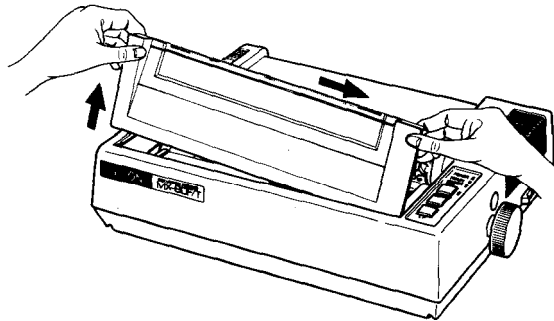

Fig. 4 Removal of Printer Lid
Step 2. Push the printer lid toward the right and pull up its left side. (See Figs. 4 (1) and (2).)
(1) Standard
NOTE: The printer lid shown in Fig. 4 (2) is an optional accessory.